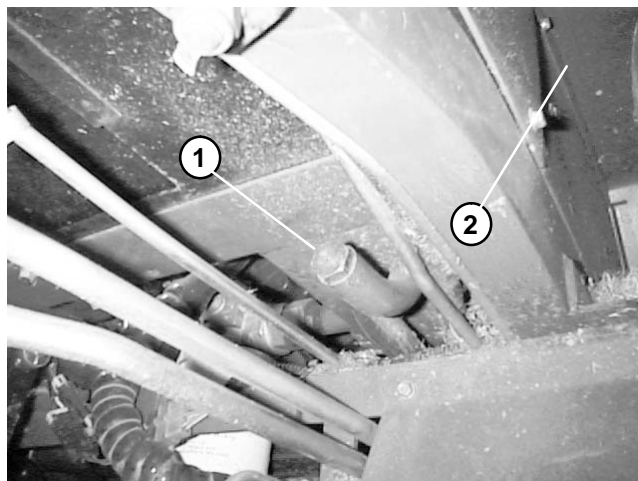

Figure 93
1. Remove drain plug from reservoir and let hydraulic oil flow into drain pan. Tighten plug when hydraulic oil stops draining (Fig. 93).